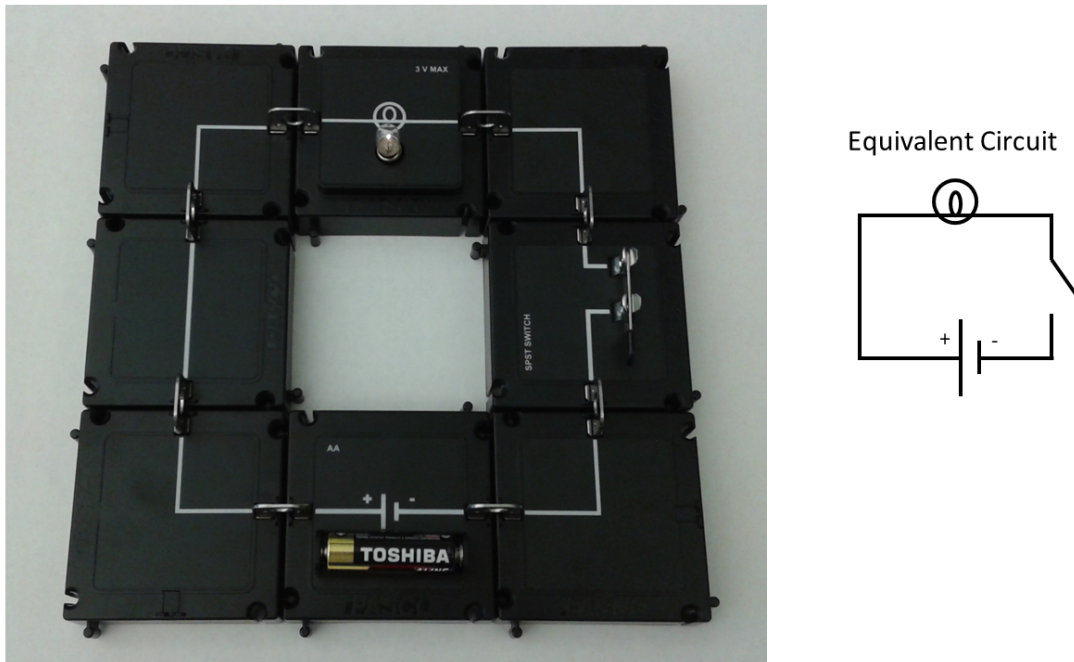

Figure 6.2: A simple circuit using modular circuit components with corresponding circuit diagram.
1. Connect a battery, lamp, switch (start in the open position), a straight wire and four wire corner modules together using 8 jumpers to create the circuit shown in Fig. 6.2.